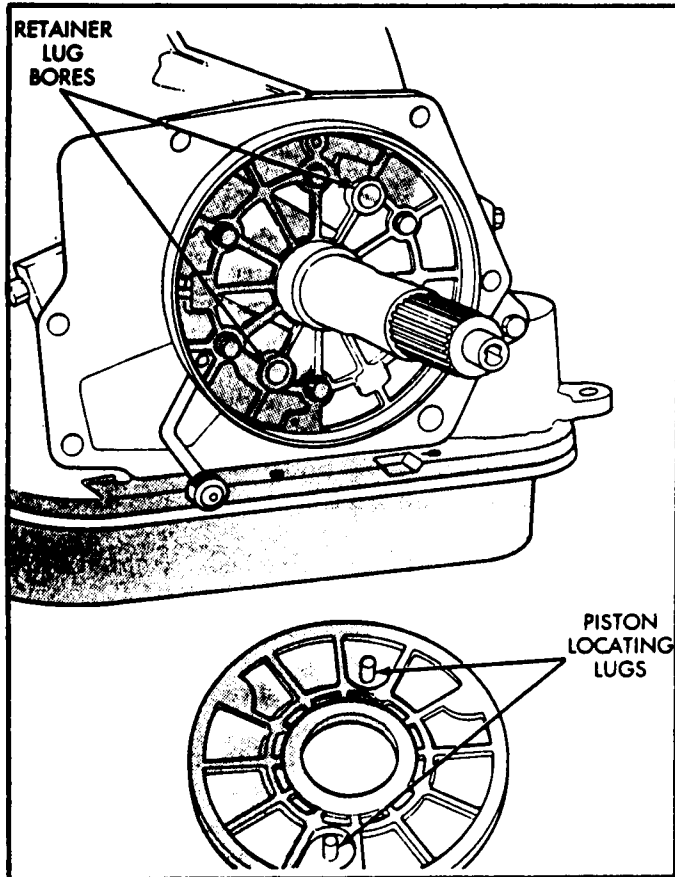

Figure 152
60. Align locating lugs on piston with the locating bores in the retainer, shown in Figure 152.